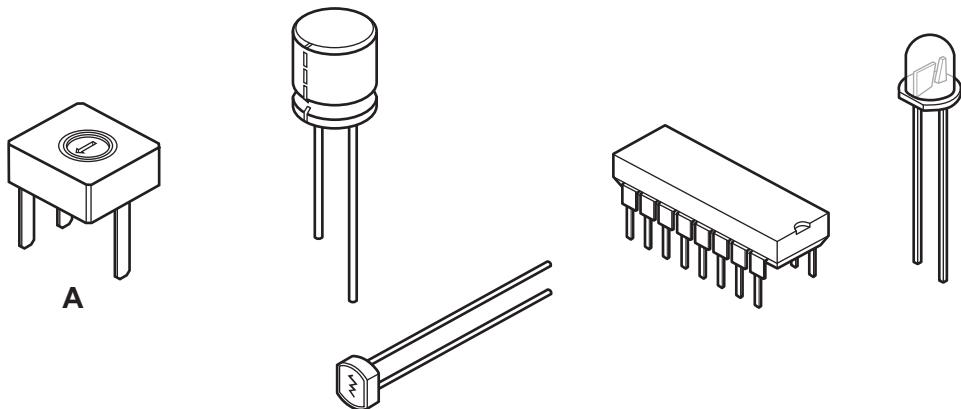

Fig. 12.2
- (ii) Fig. 12.2 shows five components that can be soldered into a PCB.